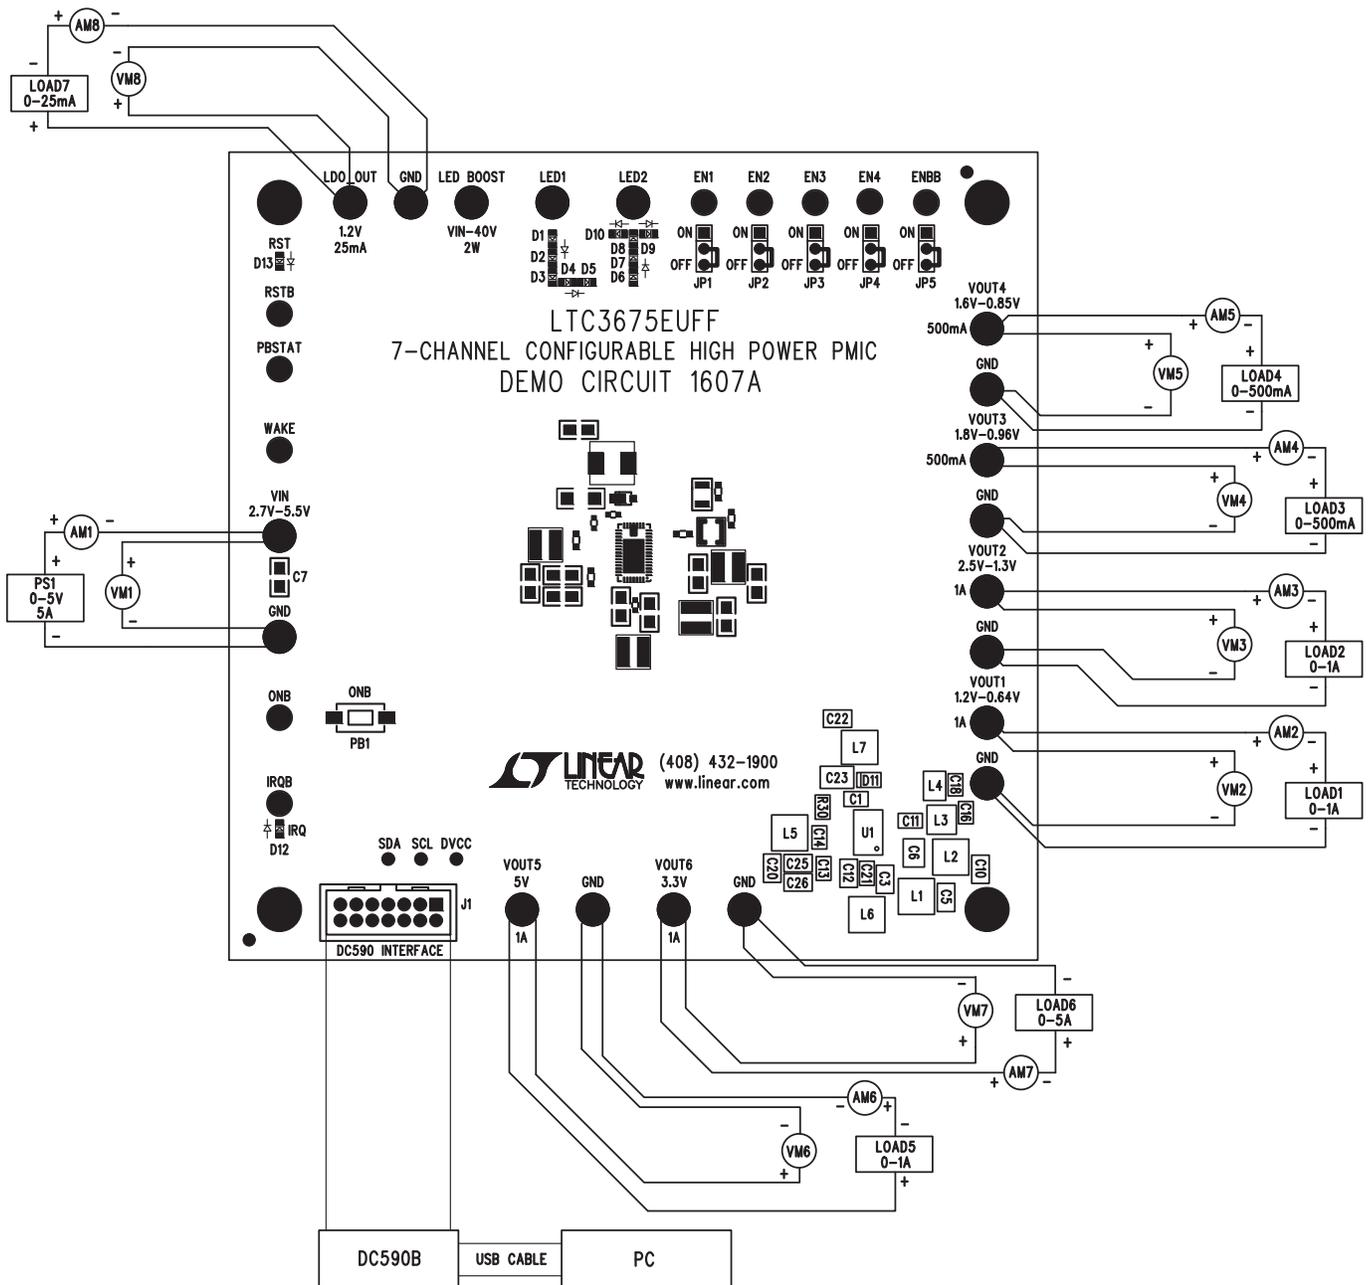

Figure 3. Proper Measurement Equipment Setup
The DC1607 is easy to set up to evaluate the performance of the LTC3675. Refer to Figure 3 and Figure 4 for proper measurement equipment setup and follow the evaluation procedure below using the DC590B board.
5. Connect DC1607 to the DC590B USB Serial Controller using the supplied 14-conductor ribbon cable as shown in Figure 3.
6. With power off, connect a 5V, 5A power supply to VIN and GND with a series ammeter and a voltmeter as shown in Figure 3.